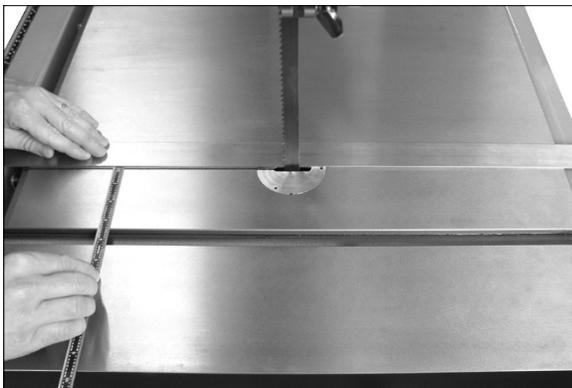

Figure 13: setting table parallel to blade
Refer to Figures 13 and 14.
3. Place a long straightedge flush against blade, making sure it contacts both front and back of blade. (Do not deflect blade by pushing into it.) See Figure 13.